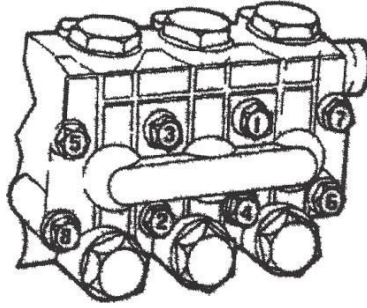

Figure 19: Manifold head torque sequence
- b. Torque all cap bolts to 5 foot-pounds in the sequence shown in Figure 19.
- c. Torque all cap bolts to 10 foot-pounds in the sequence shown in Figure 19.